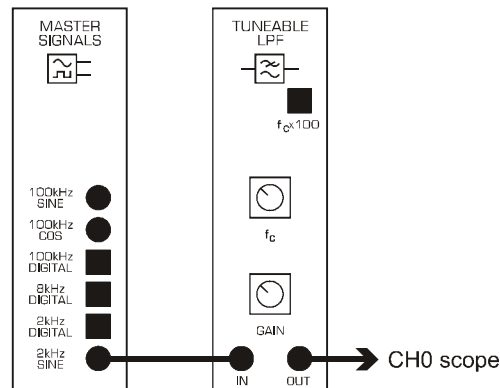

Figure 17: "adjust_the_TLPPF" wiring diagram
1. Use patching cords to wire up DATEx blocks according to the wiring diagram in Figure 17.